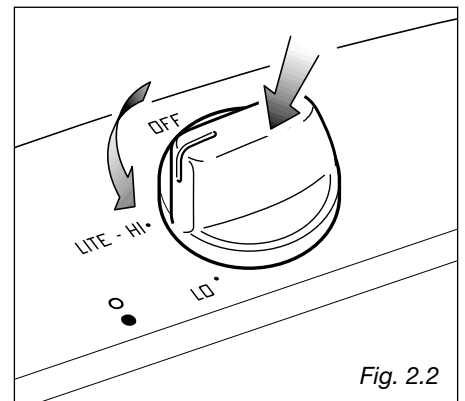

Fig. 2.2
- 1 – Turn the knob in an anti-clockwise direction up to the **LITE-HI** position (maximum rate), push in and hold the knob until the flame has been lit (fig. 2.2).